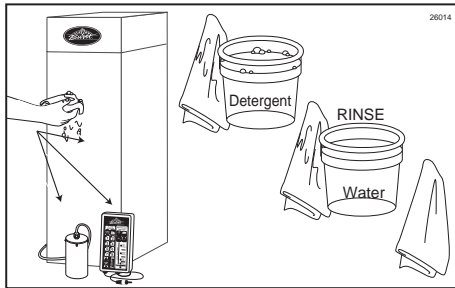

Figure 38
10. Clean, rinse and dry the surfaces of the Drive Motor, the Keypad, and exposed surfaces of the cabinet using detergent water, clean water, and single service towels. (See Figure 38.)